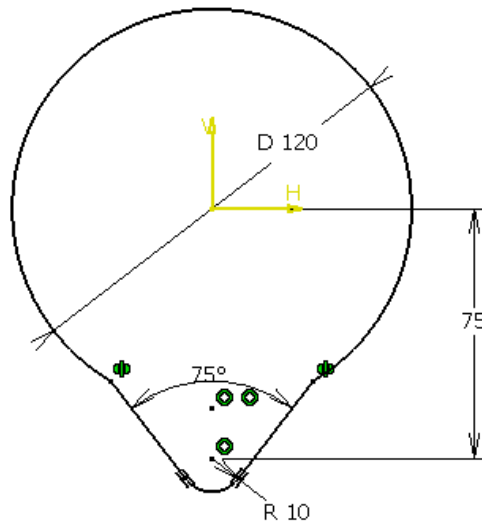

Figure 9-47 The second section for base surface
7. Draw the sketch, as shown in Figure 9-47, and exit the **Sketcher** workbench.